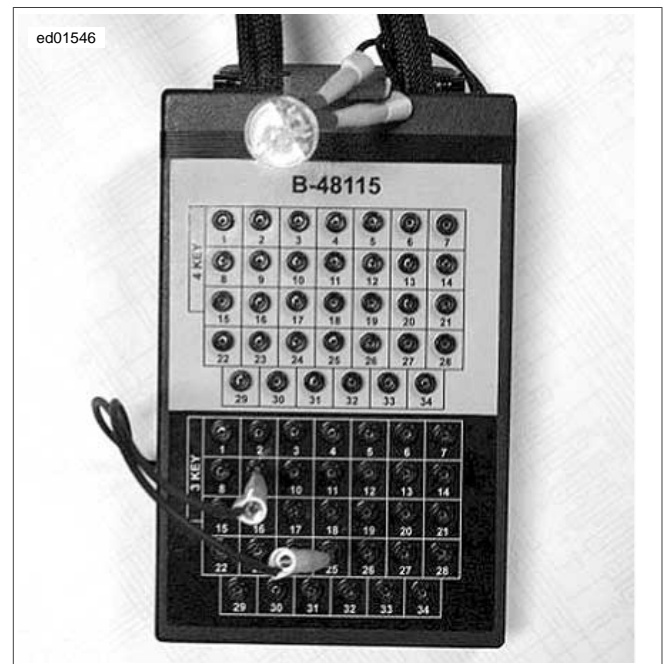

Figure 2-30. Ignition Coil Circuit Test
- See Figure 2-30. Plug FUEL INJECTOR TEST LAMP (Part No. HD-34730-2C) into Breakout Box. Note that cranking